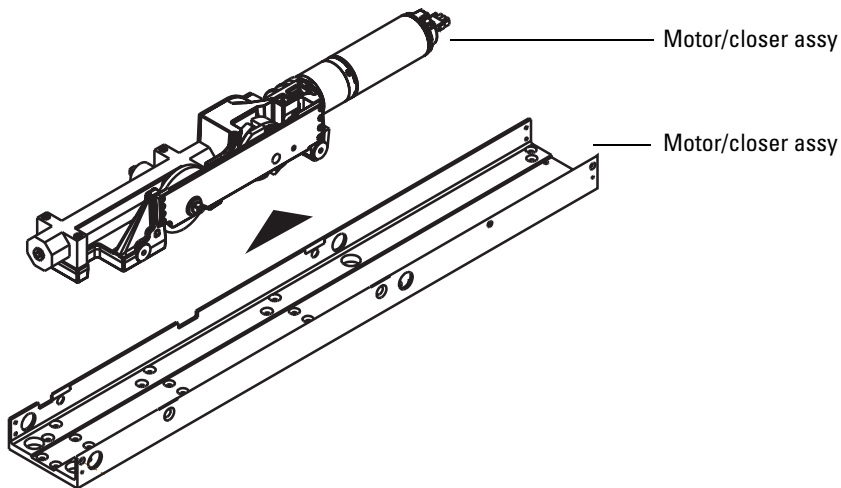

Figure 1.13 Removing the motor/closer assembly from the housing
15. Reinstall motor/closer assembly. Make sure that the harnesses are not trapped behind the motor/closer assembly. See Figure 1.13 on page 1-14.